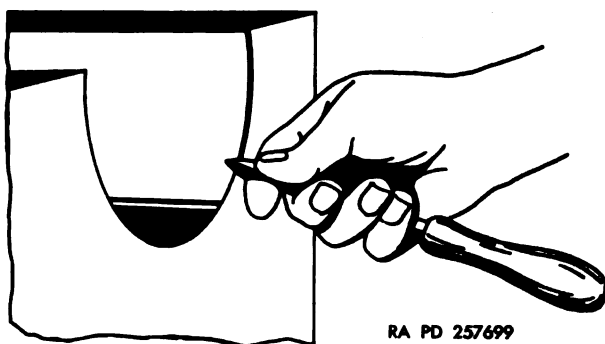

Figure 229. Using a triangular blade scraper tip.
c. Using a Machinist's Triangular Blade Scraper. In most instances, this scraper is held by the handle in one hand and the tip in the fingers of the other hand and drawn parallel across the work, as shown in figure 228. This scraper may also be held by the tip in one hand and used as shown in figure 229. Either the side or the tip can be used since the blade is tapered to a point. The three cutting edges